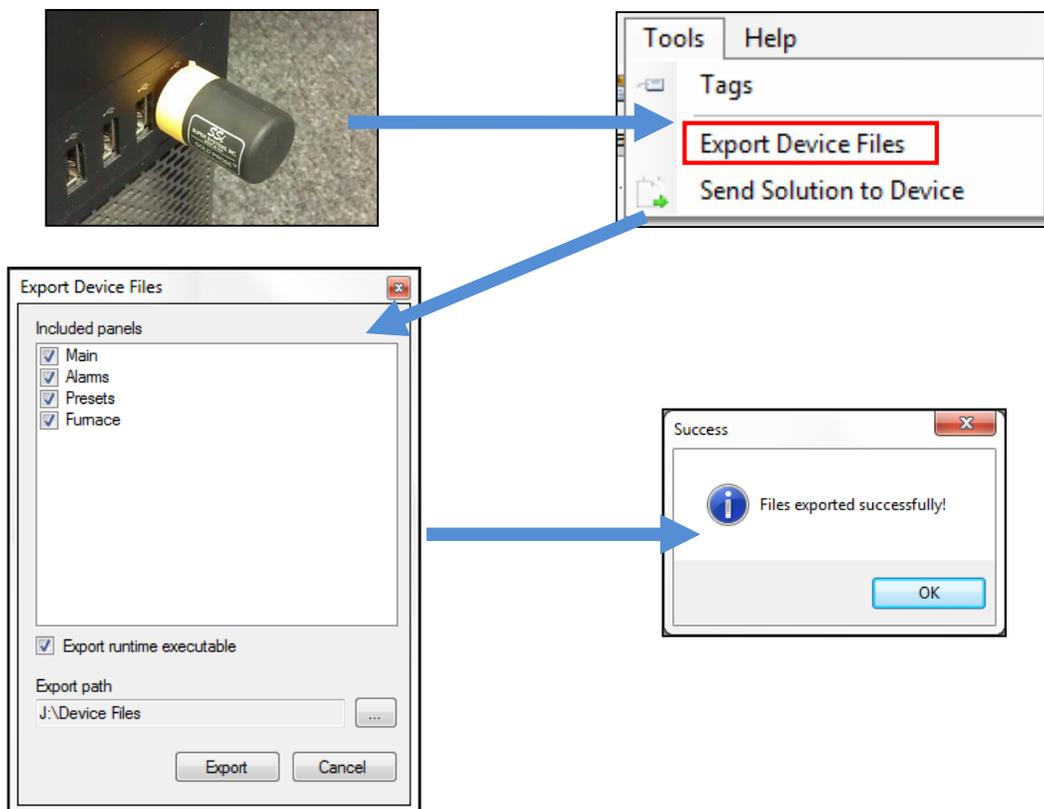

Figure 56 - Exporting Device Files
2. Using the **Tools** → **Export Device Files** option, export the device files to a USB drive or other storage medium. This process is depicted in Figure 56.